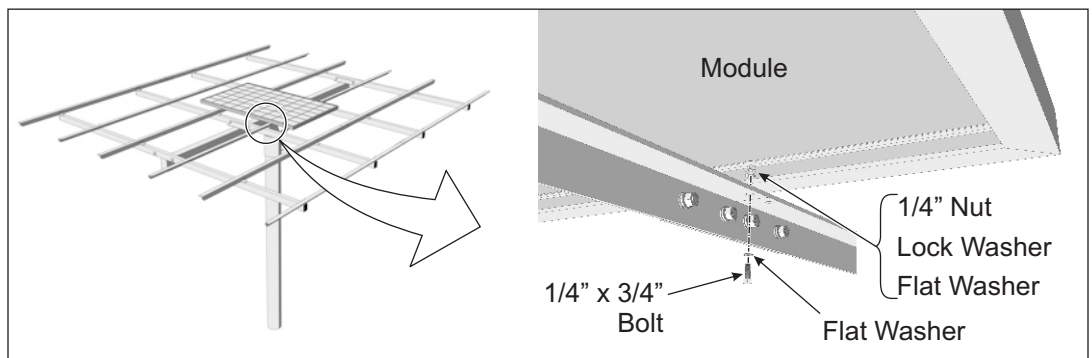

Figure 5-1: Installing PV Modules to Module Rails
- Place an interior PV Module on the Module Rails. Align the mounting holes and secure with 1/4" x 3/4" bolts and hardware. Each Module has four attachment points. Finger-tighten for now. (See Figure 5-1)